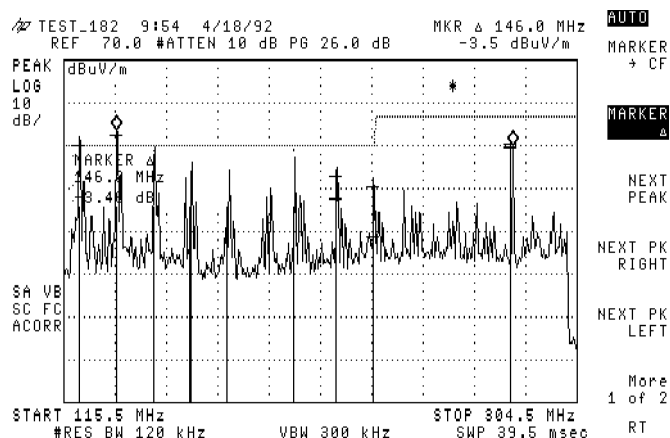

Figure 3-48. Moving the Marker to the Next Peak
24. Move the marker to the next major peak. See Figure 3-48.